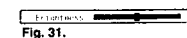

Fig. 31.
- Using **Δ+/-** or **▽-/-**, select the item you want to adjust and press **OK**. The selected item changes colour. (See Fig. 31)